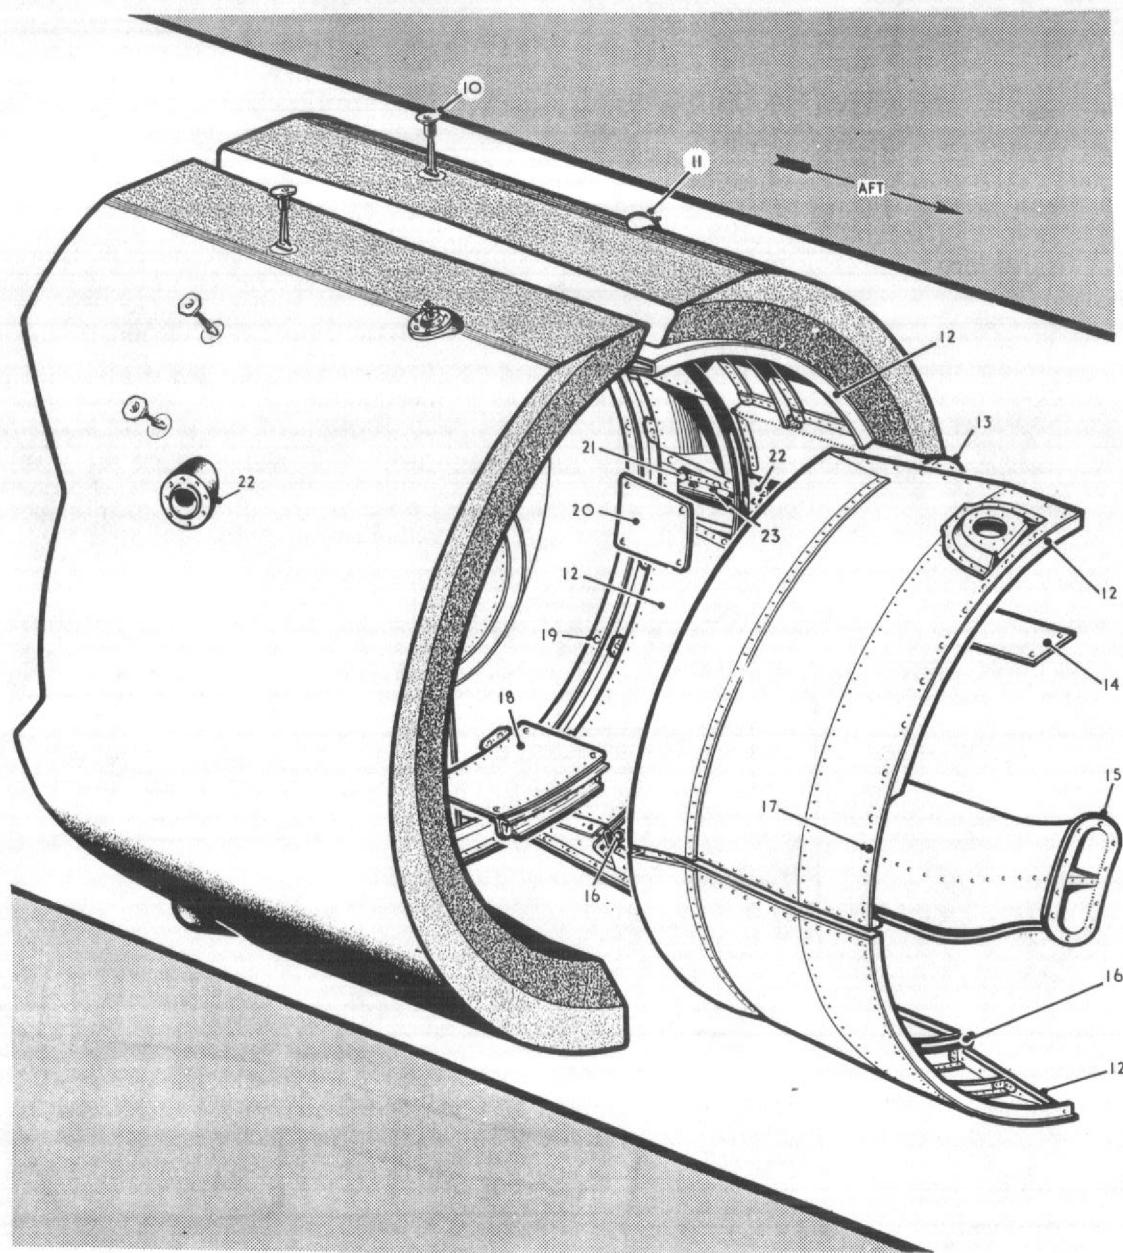

Fig. 16. Removal of centre fuel tanks (2)
### Removal of suction relief valve (fig. 16)
### Dismantling pressurisation duct (fig. 16)
### Removal of blanking plate (fig. 16)
### Removal of centre tank support panels (fig. 16)
- (1) Remove the screws from the three tank retaining nuts (fig. 16) on the fuselage skin.
- (2) Obtain seven lengths of 8 oz. kite cord (Ref. 32A/107), each approximately 6 yards long.
- (3) Thread three of the lengths of cord through the tank retaining nuts (*one cord to each nut*), then rearward through the tank bay in the fuselage and through the respective 'D' rings on the upper surface of the tank. Form each cord into a 12 in. loop around the 'D' ring and securely whip the end.
- (5) Pass one end of the last cord through the engine starter access door opening, through the hole in frame 27, then rearward through the tank bay and securely fasten the cord to the 'D' ring on the bottom front face of the tank.
- (6) Ease the tank through the fuselage into the tank bay at the same time pulling on all cords until the tank is held firmly against its supporting skins, with the loops on the three pieces of kite cord (*sub-para. 3*), through their respective retaining tank nuts.